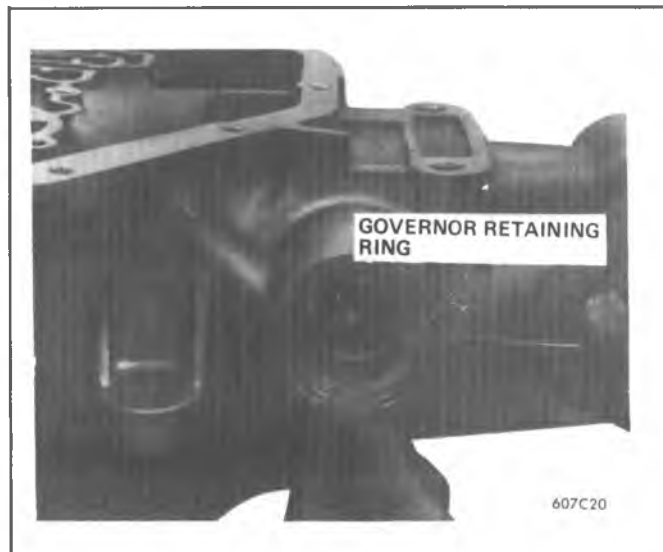

Figure 7A1-15 Removing Governor Cover Retaining Ring
b. Remove solenoid connector from electrical connector. (Figure 7A1-18)